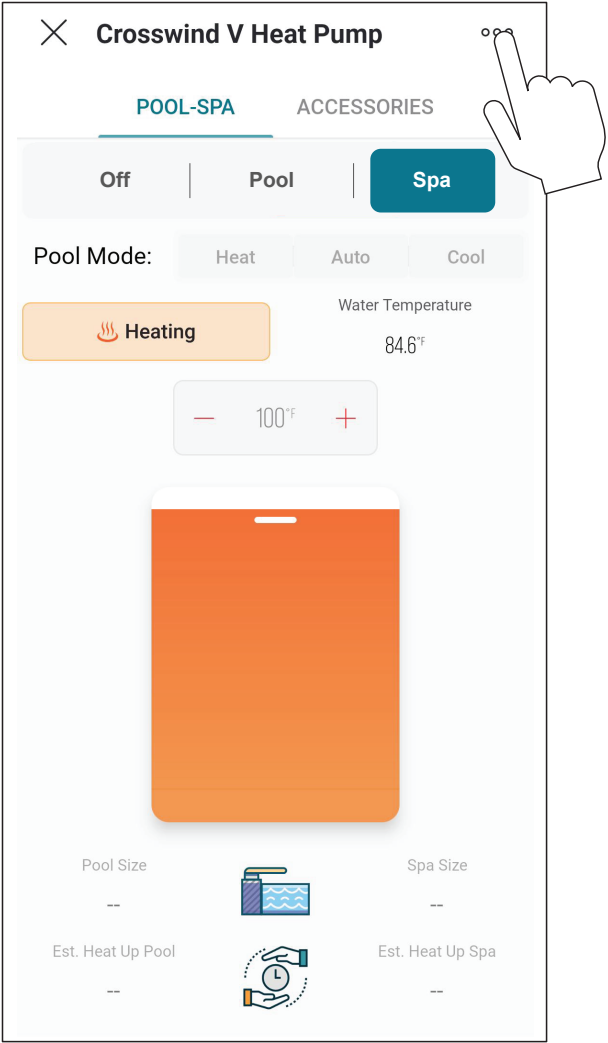

Figure 98. Open Unit Settings
2. Press the 3-dots button on top-right corner to open unit settings. See Figure 98.